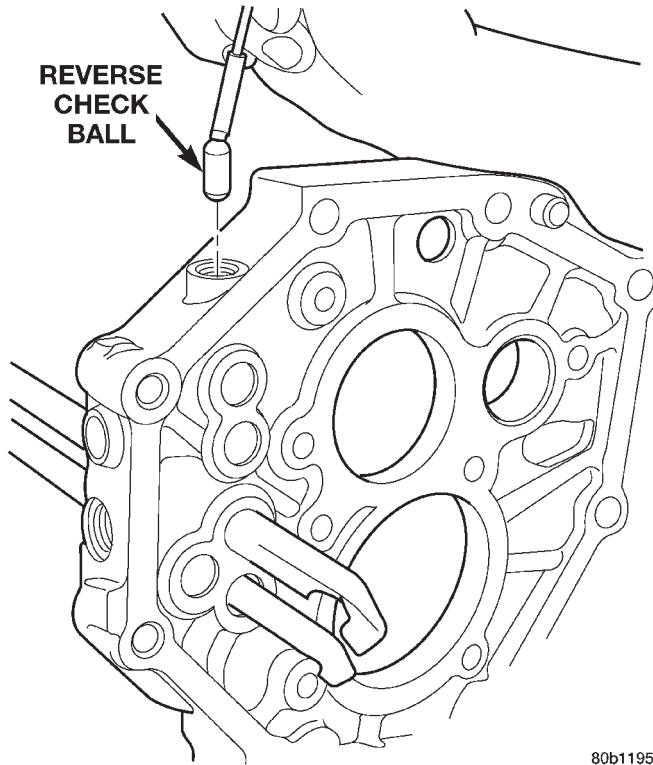

Fig. 78 Install Reverse Check Ball
- (5) Install snap-ring onto 3-4 shift rail.
- (6) Install the reverse check ball into the intermediate plate (Fig. 78).